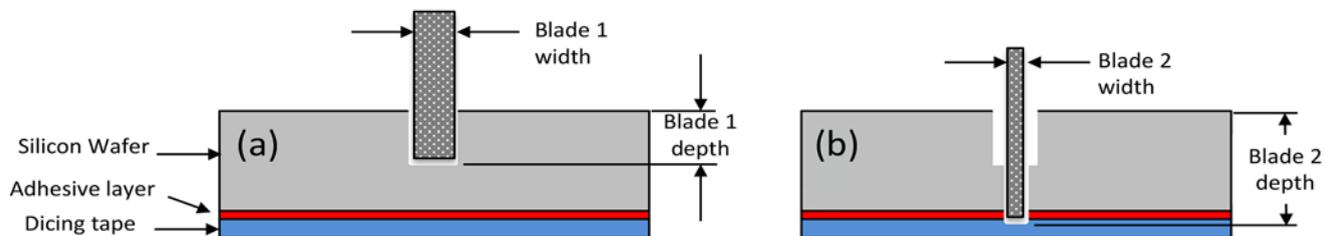

Figure 2: Two-stage saw singulation. (Source: (L) Spectrum Micro, (R) Photonics Media)
fabricator may adopt a “step-cut” procedure, which uses two blades to sequentially cut at different depths in the wafer (Figure 2). With the active surface facing down, a wide blade is employed to make the first cut from the back-side surface of the wafer (L). A second pass follows using a narrow blade that continues through the silicon, stopping at the surface of the dicing tape (R).